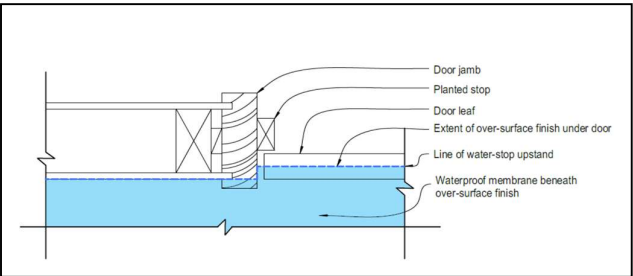

Figure 18: Plan view of water-stop under a door jam
- ✓ Figure 18: Plan view of water-stop under a door jam